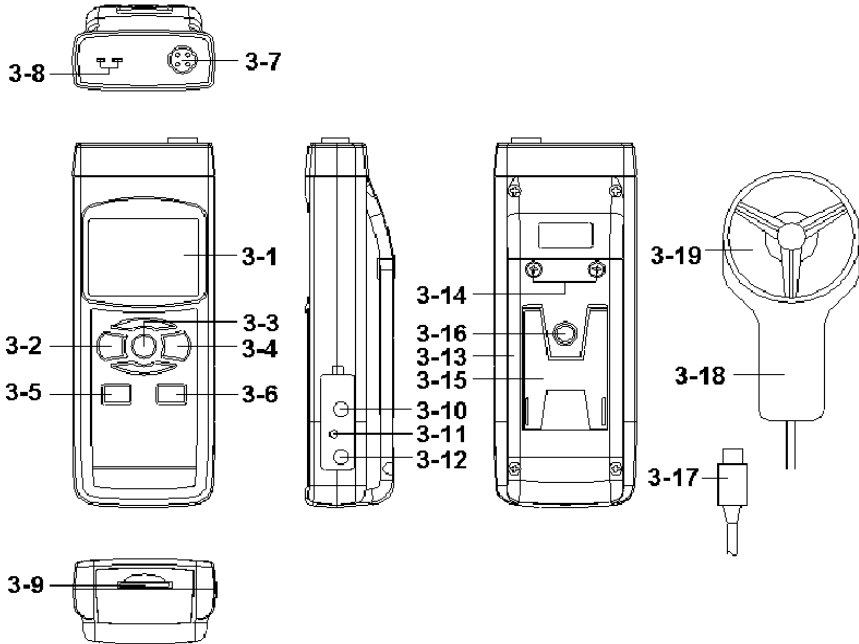

Fig. 1
(3-2, Fig. 1) momentarily.
* *Pressing the " Power Button " (3-2, Fig. 1)
Pressing the " Function Button " (3-3, Fig. 1)
just release the " Function Button " (3-3, Fig. 1), the
- b. Plug the " Probe Plug " (3-17, Fig. 1) into the " Probe Input Socket " (3-7, Fig. 1).
Power on the meter by pressing the " Power Button " (3-2, Fig. 1) once,
- c. Hold the " Probe Handle " (3-18, Fig. 1) by hand and let the " Probe Head " (3-19, Fig. 1) face against the measuring air flow source, then the Display (3-1, Fig. 1) will show air velocity directly. At the same time, the lower Display will show the air temperature value.
- b. Not install the " Probe Plug " (3-17, Fig. 1) into the " Probe Input Socket " (3-7, Fig. 1)
- c. Plug the Thermocouple Temp. Probe (Type K Temp. probe or Type J Temp. probe, optional) into " Type K/J Probe Input Socket " (3-8, Fig. 1)
During the measurement, press the " Hold Button " (3-3, Fig. 1) once will hold the measured value & the LCD will display a " HOLD " symbol.
- 1) The data record function records the maximum and minimum readings. Press the " REC Button " (3-4, Fig. 1) once to start the Data Record function and there will be a " REC. " symbol on the display.
- a) Press the " REC Button " (3-4, Fig. 1) once, the " REC. MAX. " symbol along with the maximum value will appear on the display.
If intend to delete the maximum value, just press the " Hold Button " (3-3, Fig. 1) once, then the display will show the " REC. " symbol only & execute the memory function continuously.
- b) Press the " REC Button " (3-4, Fig. 1) again, the " REC. MIN. " symbol along with the minimum value will appear on the display.
If intend to delete the minimum value, just press the " Hold Button " (3-3, Fig. 1) once, then the display will show the " REC. " symbol only & execute the memory function continuously.
After power ON, the " LCD Backlight " will light automatically. During the measurement, press the " Backlight Button " (3-2, Fig. 1) once will turn OFF the " LCD Backlight " .
Prepare a " SD memory card " (1 G to 16 G, optional), insert the SD card into the " SD card socket " (3-9, Fig. 1). The front panel of the SD card should face against the the down case.
Press the " REC Button (3-4, Fig. 1) once , the LCD will show the text " REC ", then press the " Logger Button " (3-6, Fig. 1), the " REC " will flashing, at the same time the measuring data along the time information will be saved into the memory circuit.
During execute the Datalogger function , if press the " Logger Button " (3-6, Fig. 1) once will pause the Datalogger function (stop to save the measuring data into the memory circuit temporally). In the same time the text of " REC " will stop flashing.
If press the " Logger Button " (3-6, Fig. 1) once again will execute the Datalogger again, the text of " REC " will flashing .
During pause the Datalogger, press the " REC Button " (3-4, Fig. 1) continuously at least two seconds, the " REC " indication will be disappeared and finish the Datalogger.
Press the " REC Button (3-4, Fig. 1) once , the LCD will show the text " REC ", then press the " Logger Button " (3-6, Fig. 1) once, the " REC " will flashing once and Beeper will sound once, at the same time the measuring data along the time information will be saved into the memory circuit. The lower Display will show the Position (Location) no. and saved into the SD card too.